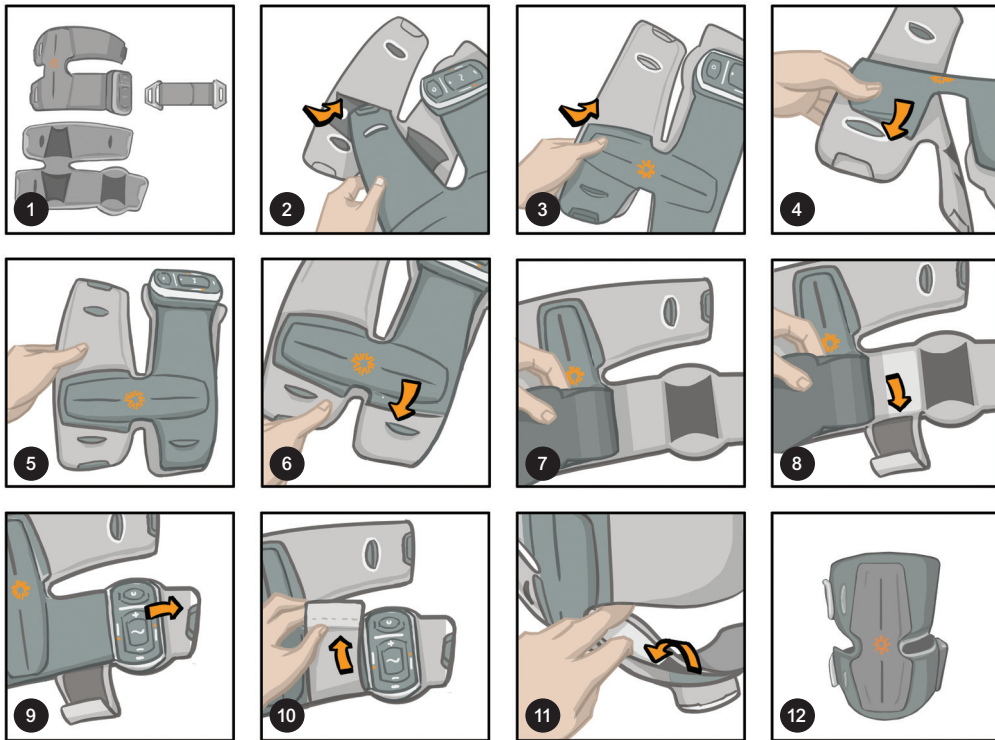

Figure 8-7: Attaching the Home Use Thigh Cuff Cover
1. Insert the upper Thigh Cuff panel into the cover first and then attach the Velcro pocket around the bottom panel. See Figure 8-7.